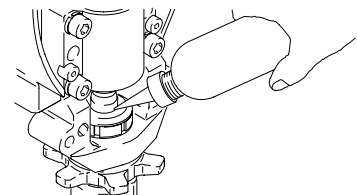

Fig. 16 7677B
- Fig. 16. Fill packing nut with Graco TSL, through one of the slits, until fluid flows onto the top of seal.